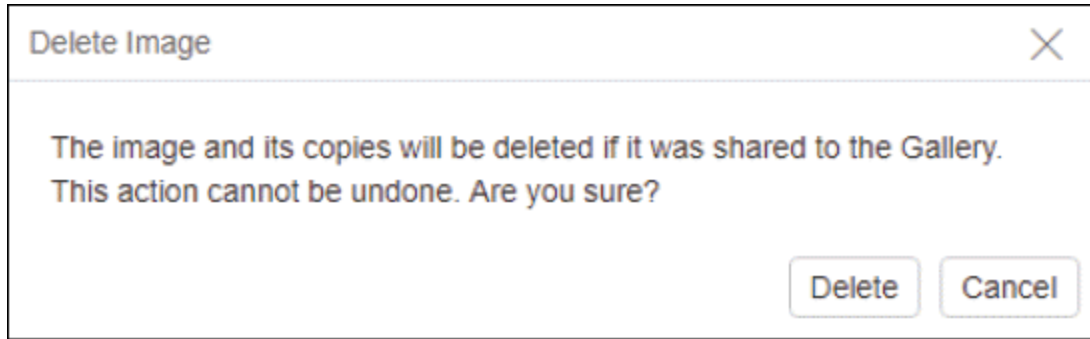

Figure-31. Delete Image dialog box
- If you want to delete the current file from **RENDERING GALLERY** then click on the **Delete** button from **RENDERING GALLERY** dialog box. The **Delete Image** dialog box will be displayed; refer to Figure-31.